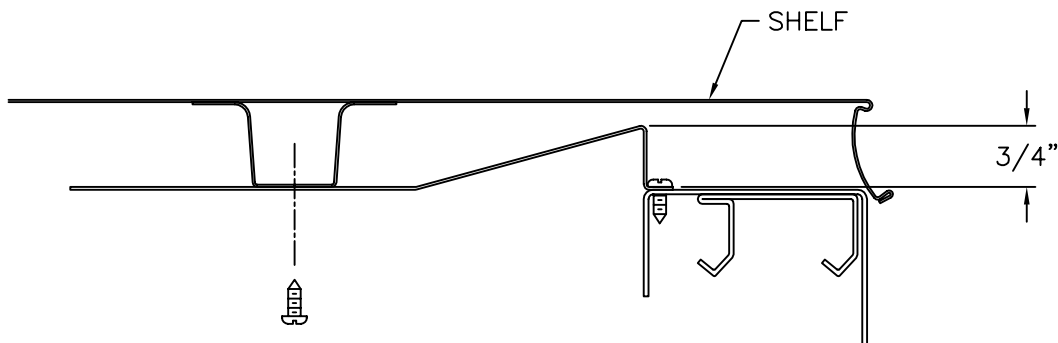

FIGURE 6
- C. BEND STRAPS AS SHOWN IN FIGURE 6 TO PROVIDE CLEARANCE FOR APPLICATIONS REQUIRING A LIGHT KIT.